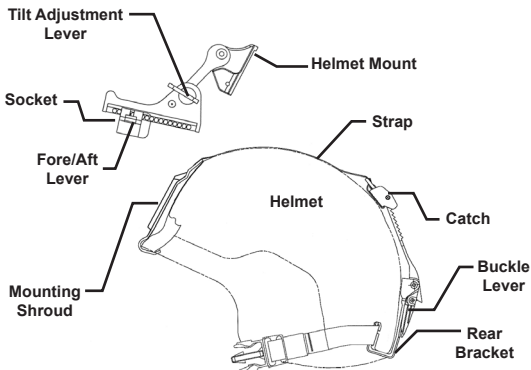

Figure 4-10. Quick Disconnect Helmet Mount Features
- Remove the helmet mount assembly from the carrying case. Make sure the helmet mount is complete. Refer to Figure 4-10 for the helmet mount components and features.